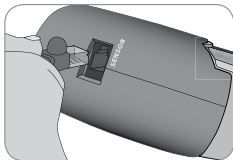

Fig. 27
9. Insert RJ11 plug into jack labeled "sensor" on right side of alarm (Fig. 27). Alarm will activate. Press the HOLD button. You have 30 seconds to transfer the patient to the bed before monitoring begins.